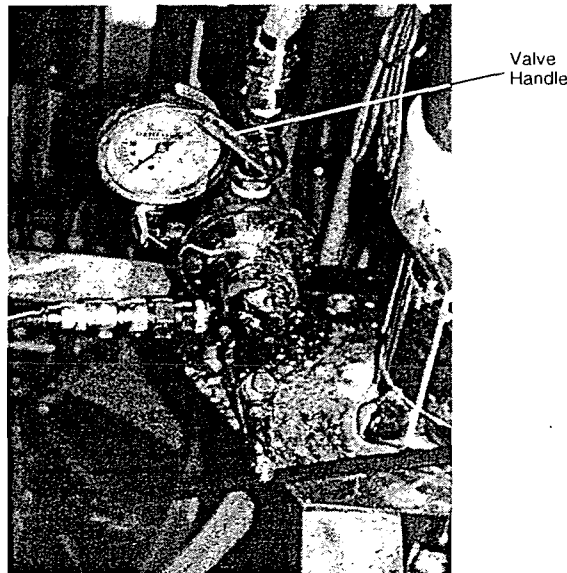

Figure 2.9.1: Pump Air Inlet Valve
2.9.1 Confirm that the main air inlet to the paint pumps are closed. The inlet is closed when the handle is in the horizontal position. (Figure 2.9.1)
2.9.8 Open pump air inlet valve. (Figure 2.9.1)
2.9.10 Close inlet air valve. (Figure 2.9.1)
2.10.3 Open the black pump air inlet valve. (Figure 2.9.1)
2.10.9 Close the black pump air inlet valve. (Figure 2.9.1)
2.10.10 Open the white pump air inlet valve. (Figure 2.9.1)
2.10.19 Open the pump air inlet valves for both paint pumps (Figure 2.9.1).
2.11.11 Open the main air inlet for both pumps. (Figure 2.9.1) The valve handle should be in the vertical position.